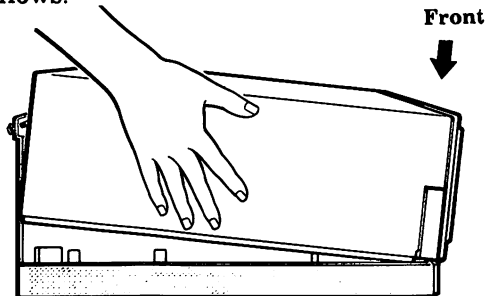

Figure 2-6. Replacing the top cover.
- . Lower the front of the cover into place. Press in on the sides of the cover as you lower them into place, making sure the cover edges fit inside the processor frame. See Fig. 2-6.